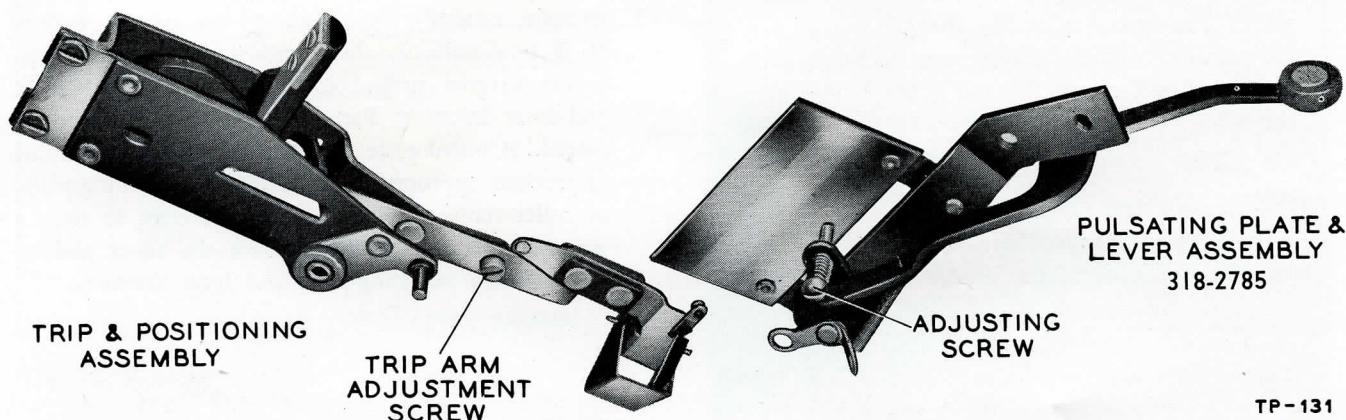

FIGURE 35. TRIP AND POSITIONING — PULSATING-PLATE AND LEVER ASSEMBLIES
6. Adjust the screw on the trip-arm and positioning assembly, figure 35, until the rubber roller just clears the pulsating plate. Swing the arm over its entire travel and observe the uniformity of the distance between the roller and plate. If the distance is not uniform, bend the plate-supporting springs slightly.
4. PULSATING-PLATE AND LEVER ASSEMBLY, figure 35. Follow complete trip adjustment procedure page 19.
8. **TRIP AND POSITIONING ASSEMBLY**, figure 35. Follow complete trip adjustment procedure, page 19.